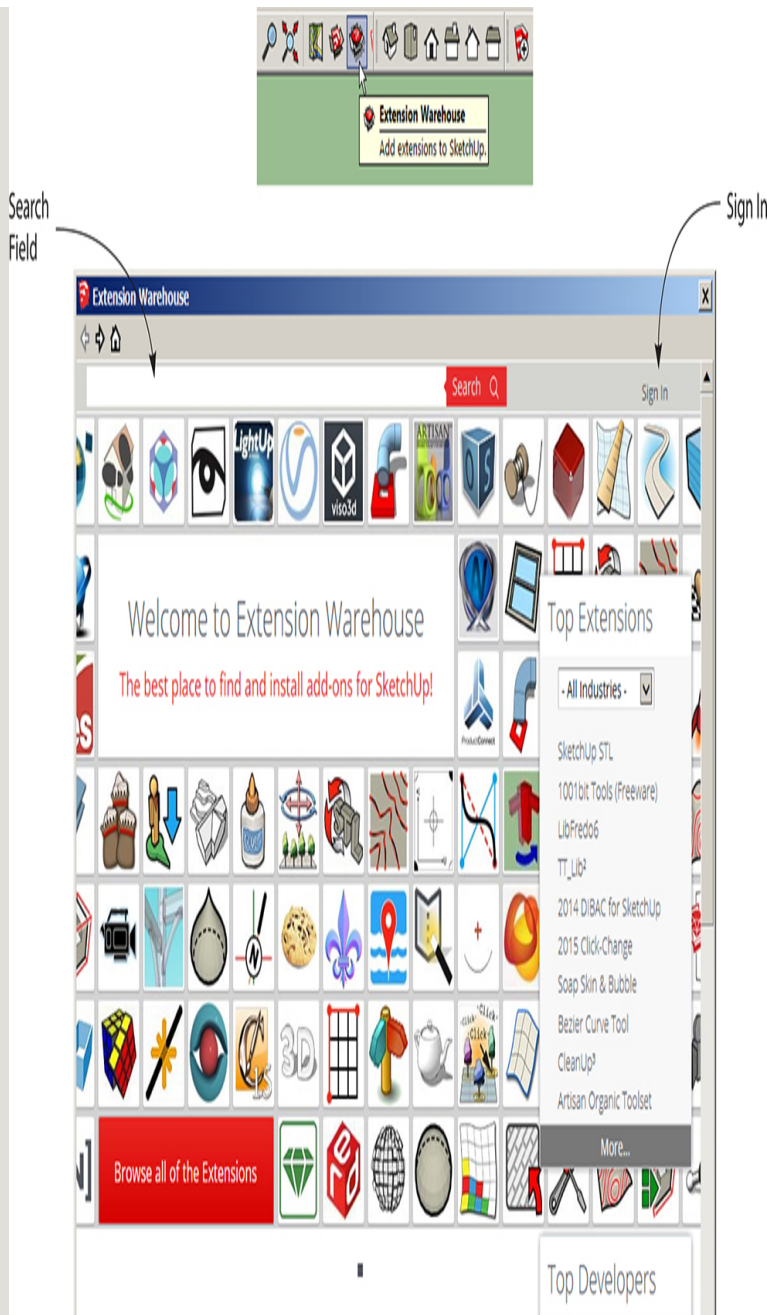

Figure 4-7 The Extension Warehouse icon and homepage.
The best source of extensions is the Extension Warehouse (EW). It contains both free and pay ones. Access it through its toolbar icon (top graphic, Figure 4-7).